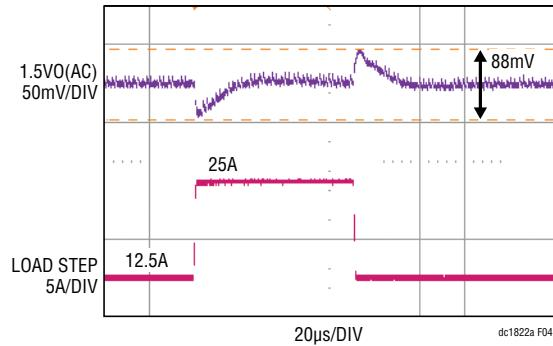

Figure 4. Load Step Response of the DC1822A 1.5V Rail at $V_{IN} = 12V$.
4. With the converter running, slowly increase the amplitude of the pulse generator output to provide the desired load step pulse height. The scaling for the load step signal is 10mV/Amp. See Figures 4 and 5 for transient response curves with a 50% load change.